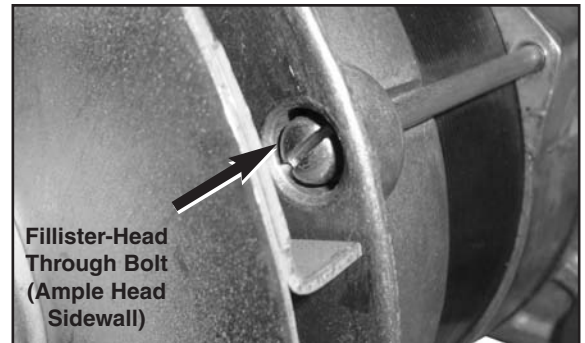

Figure 4 - Through Bolt Head Inspection Example Shown.
- a. If the alternator IS NOT affected, proceed to section 3.D(3) for Return to Service.
- (1) Using a bright white light, inspect the alternator drive end housing at each through bolt location (four each) beneath the fan. Refer to Figure 4.